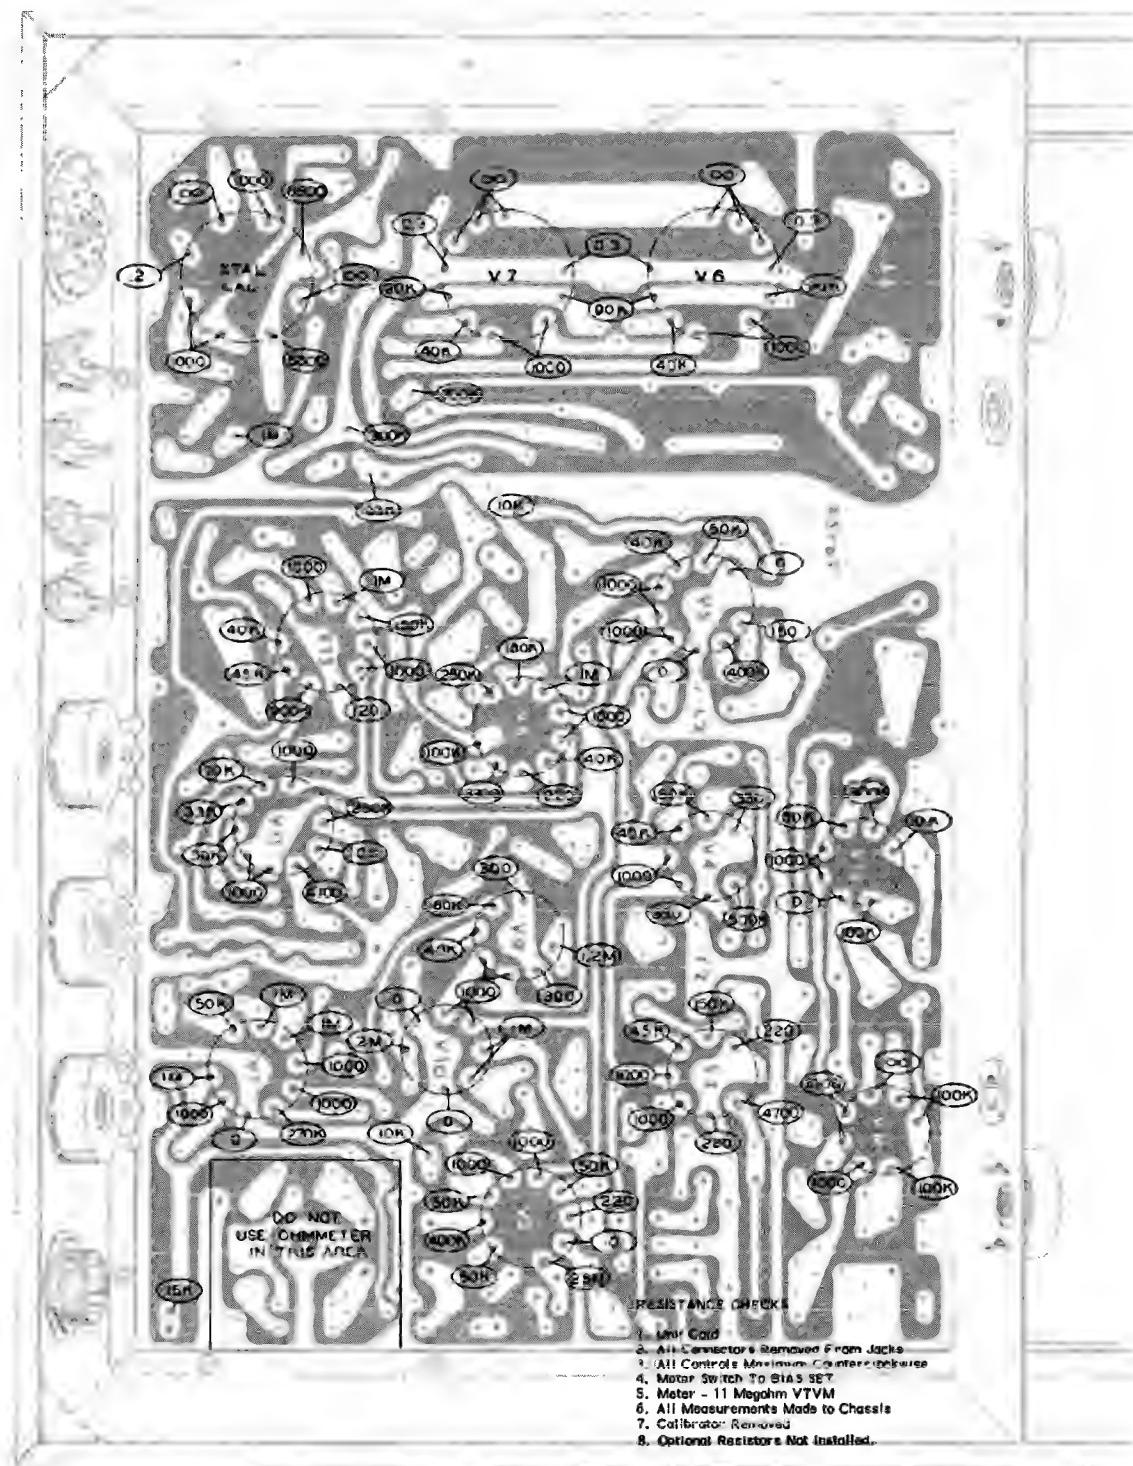

Figure 11
7. If, after careful checks, the trouble is still not located and a voltmeter is available, check voltage readings against those shown in Figures 11 and 12. NOTE: All voltage readings were taken with an 11 meg-ohm input vacuum tube voltmeter. Voltages may vary as much as 10%.
NOTE: To aid in servicing or troubleshooting the Transceiver, refer to the Resistance and Voltage readings on Figures 11 through 13 and the Circuit Board X-Ray Views shown in Figures 14 and 15 on Pages 54 and 55.